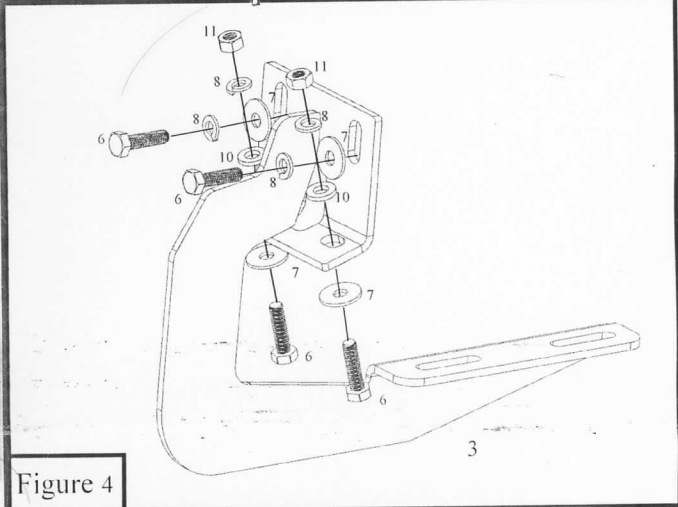

Figure 4
- Take the drivers side front mounting bracket (item 3), and attach it to the previously installed nut clips using (2) M8 hex head bolts (item 6), (2) M8 lock washers (item 8), and (2) M8 large flat washers (item 7). Do not fully tighten at this time, the cradles will face the rear of the vehicle. **Figure 4.**
- Attach the mounting bracket to the bottom holes in the rocker panel using (2) M8 hex head bolts (item 6), (2) M8 large flat washers (item 7), (2) M8 flat washers (item 10), (2) M8 lock washers (item 8), and (2) M8 hex nuts (item 11). Do not fully tighten at this time. **Figures 4 & 6.**